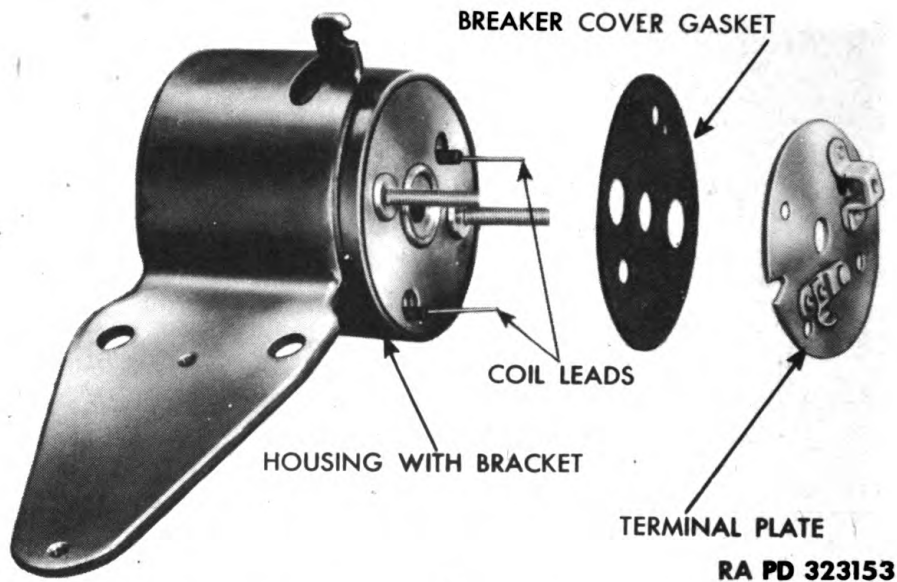

Figure 154 — Terminal Plate Removed
59. REPAIR AND REBUILD (fig. 154).